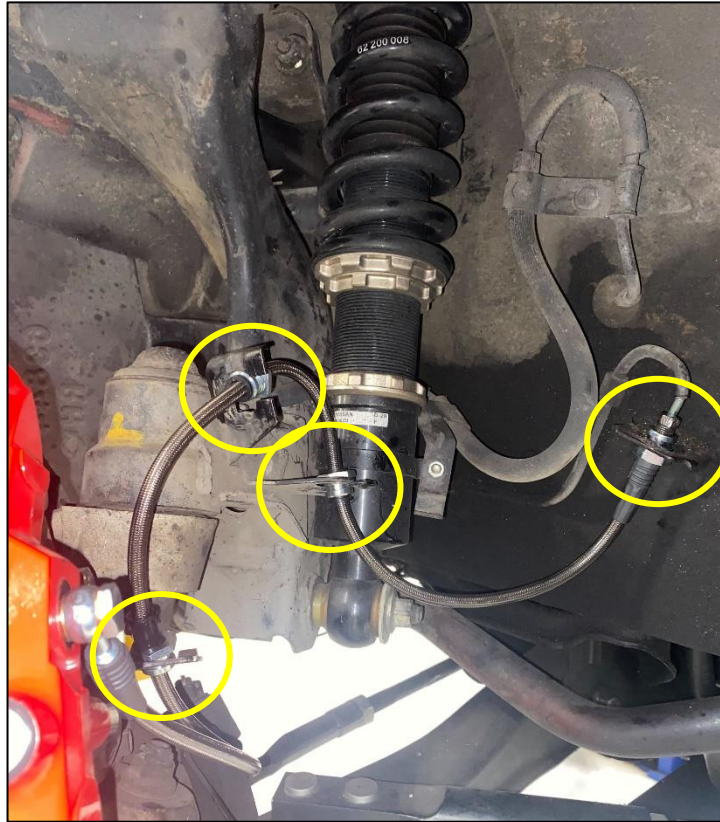

Figure 10
19. Route the rest of the Brake Line through the other (3) three Mounting Points. The Mounts on the Brake Line can be moved to fit the Brackets as necessary. Secure the Line with the OEM Retaining Clips. *Figure 10.*